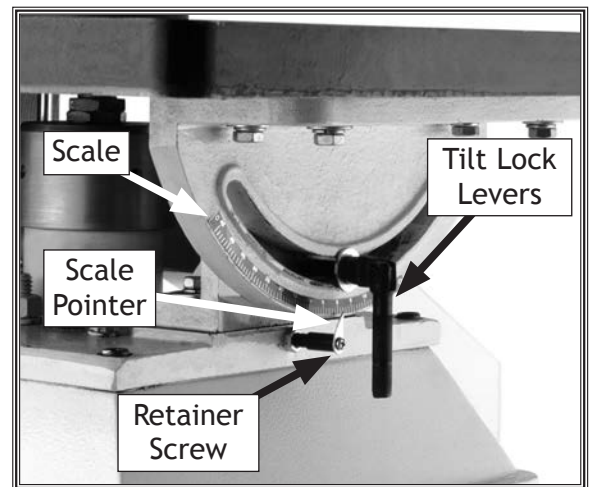

Figure 14. Pointer adjustment.
3. Loosen table tilt lock levers located on each side of table trunnion assembly (see **Figure 14**).
- Loosen retainer screw (see **Figure 14**) that secures scale pointer and adjust pointer to read 0°. Re-tighten retainer screw.